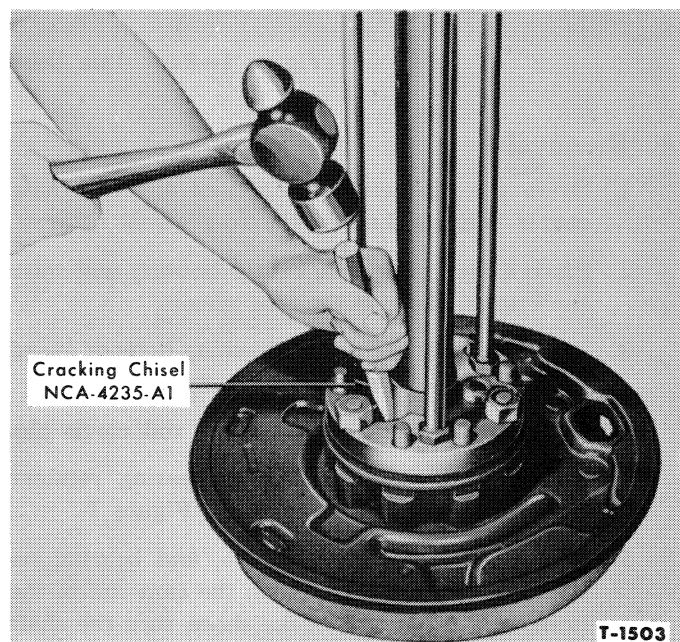

Figure 3—Cracking Chisel in Position to Split Bearing Retaining Collar
4. Position the fixture so that the largest guide hole is over the drilled hole. Install the Cracking Chisel, NCA-4235-A1, Figure 3, in the hole so that the round side of the chisel faces the bolt circle.